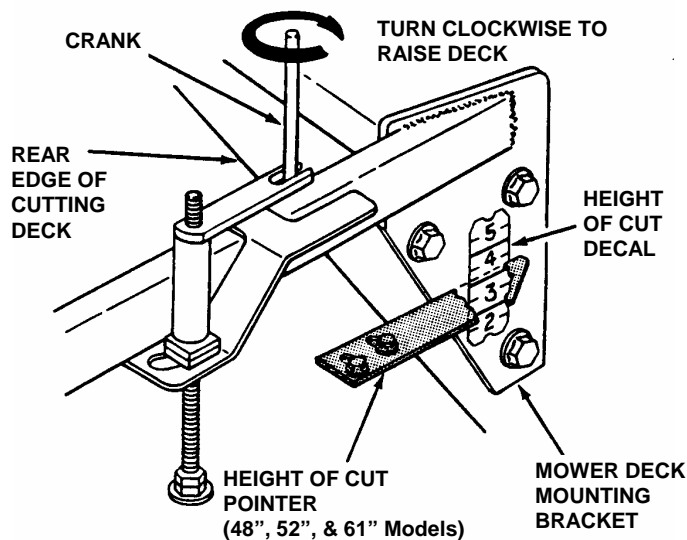

FIGURE 3.16
2. To adjust height of cut, turn both Cranks (located on right hand and left hand side of deck) clockwise to raise the Mower Deck and counter-clockwise to lower the Mower Deck. Observe the height of cut decal located on the side of the Mower Deck mounting plates and move the height of cut pointers in the same desired position. See Figure 3.16.